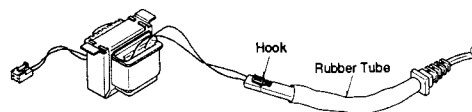

Figure 42
- (1) After cutting two cord clamps, move rubber tube aside, and unhooking hook of connector, disconnect AC cable as shown in Figure 42.